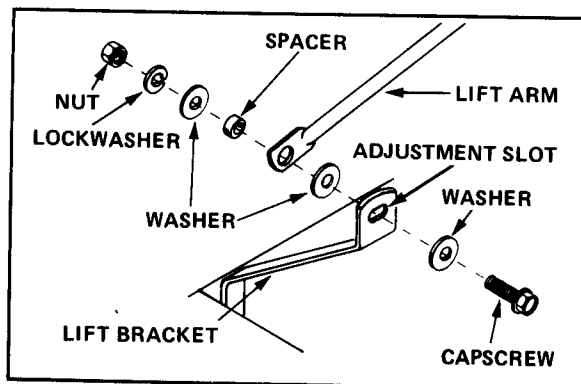

FIGURE 8
7. Attach lift arm to the lift bracket, Figure 8, using a spacer, 3/8" x 1 1/2" capscrew, three flat washers, lockwasher and nut. Insert spacer through hole in lift arm. Use one flat washer at each end of the spacer. Use the third flat washer next to the slot on the lift bracket. Secure with lockwasher and nut.